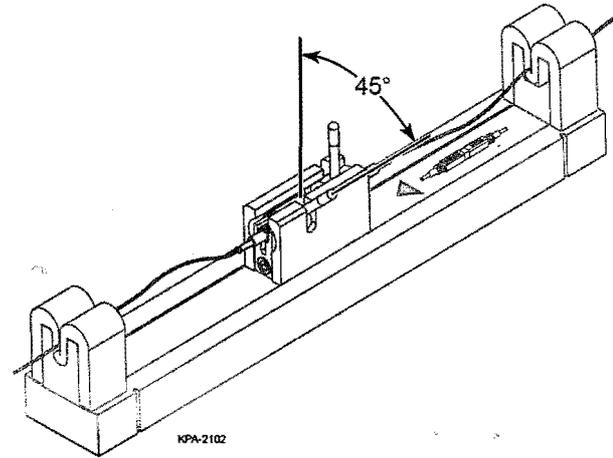

Figure 13 — Rotate First Lever
- b. Rotate the left lever to 45-degrees (Figure 13) to close that side of the splice and hold the fiber. This action provides a positive stop to mate the right fiber against.